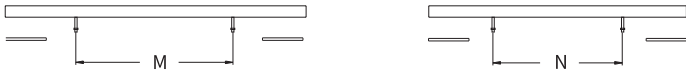
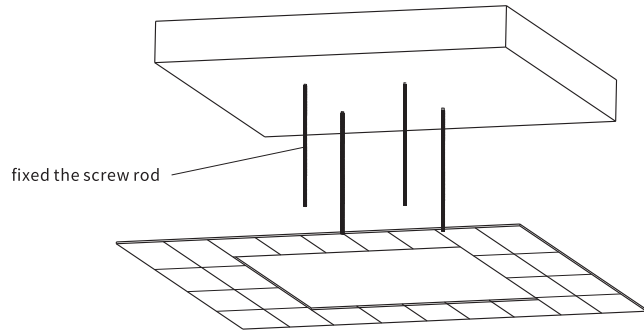

figure 3
figure 4
2. Ensure the security distance M、N according to the figure 3 and the model of table. Install the brackets to the roof via the screws, figure 4.